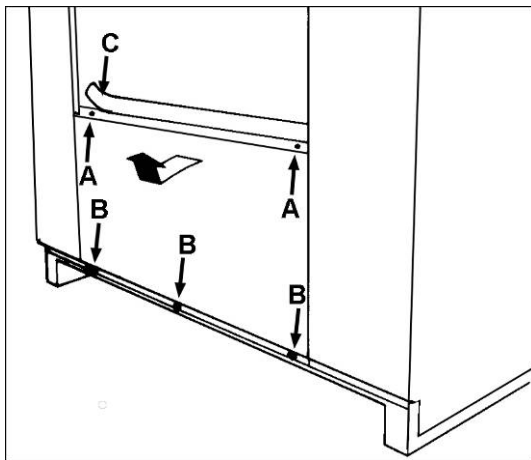

Fig. 2.6
- Remove the screws (**Fig. 2.6/A**) holding the lower front cover and loosen the three screws (**Fig. 2.6/B**) holding the base of the chassis.
- Separate the rubber profile (**Fig. 2.6/C**) at the two small side guards and remove the front cover (**Fig. 2.6**).